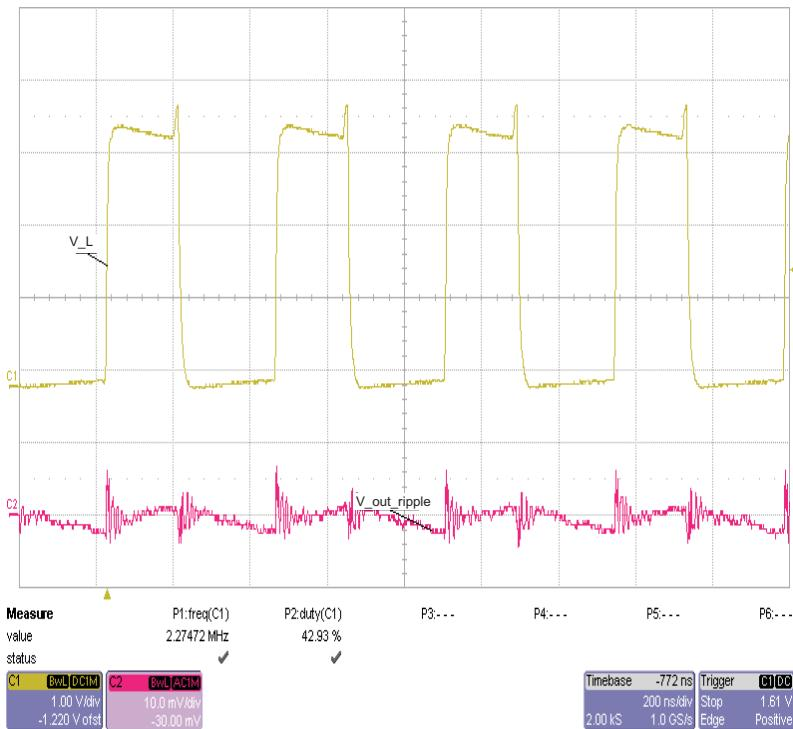

Figure 2. Boost Switch Node, V_L and Output Ripple; $V_{in} = 1.5$ V, $V_{out} = 3.3$ Vdc With 49.9Ω Load
3. Look at CH1 and CH2, and verify that the duty cycle is between 54% and 60%, and the ripple is less than 10 mV. Note that the duty cycle is the on-time (low) divided by the period (Figure 2).